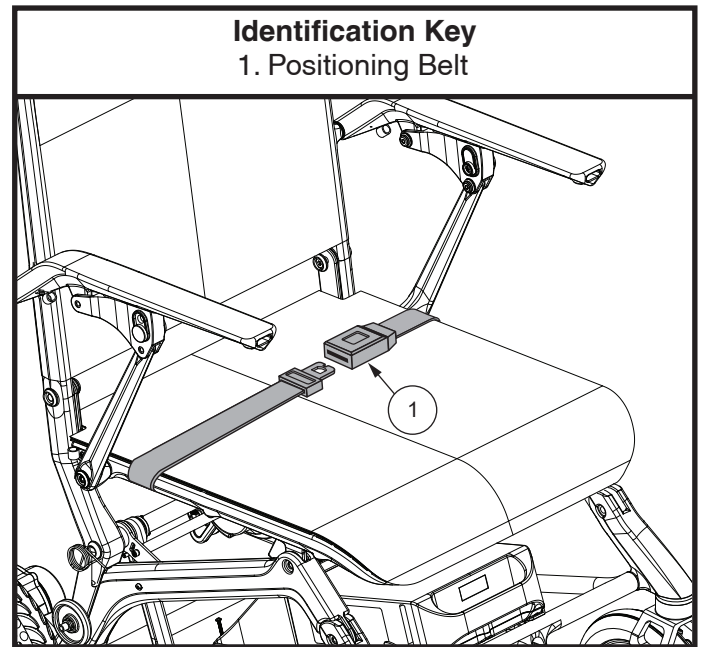

Figure 11. Positioning Belt Adjustment
Your power chair may be equipped with a positioning belt that can be adjusted for operator comfort. **See figure 11.** The positioning belt is designed to support the operator so that he/she does not slide down or forward in the seat. The positioning belt is not designed for use as a restraining device.
1. Once seated, insert the plastic tab on one side of the belt into the plastic housing on the opposite side until you hear a click. **See figure 11.**